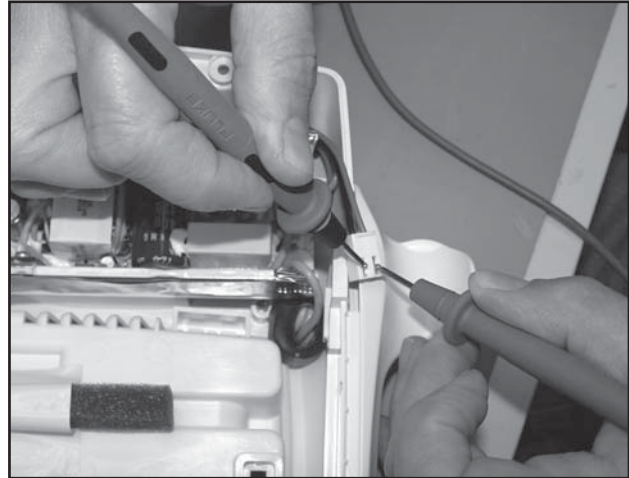

FIGURE 5.3
3. Using a multimeter, hold the red wire of the multimeter to the prong on the connector for the red wire of the Power Supply Harness. Hold the black wire of the multimeter to the prong on the connector for the black wire of the Power Supply Harness. **Refer to Figure 5.3.**